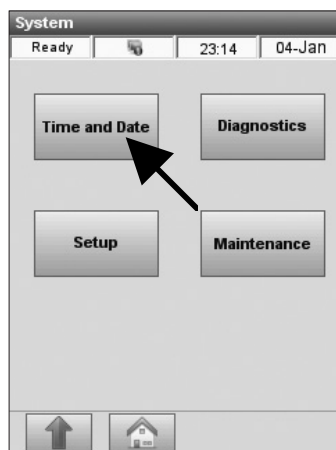

Fig. 3-2 Select Time and Date
2. Press **<Time and Date>** in the **<System>** menu (Fig. 3-2).